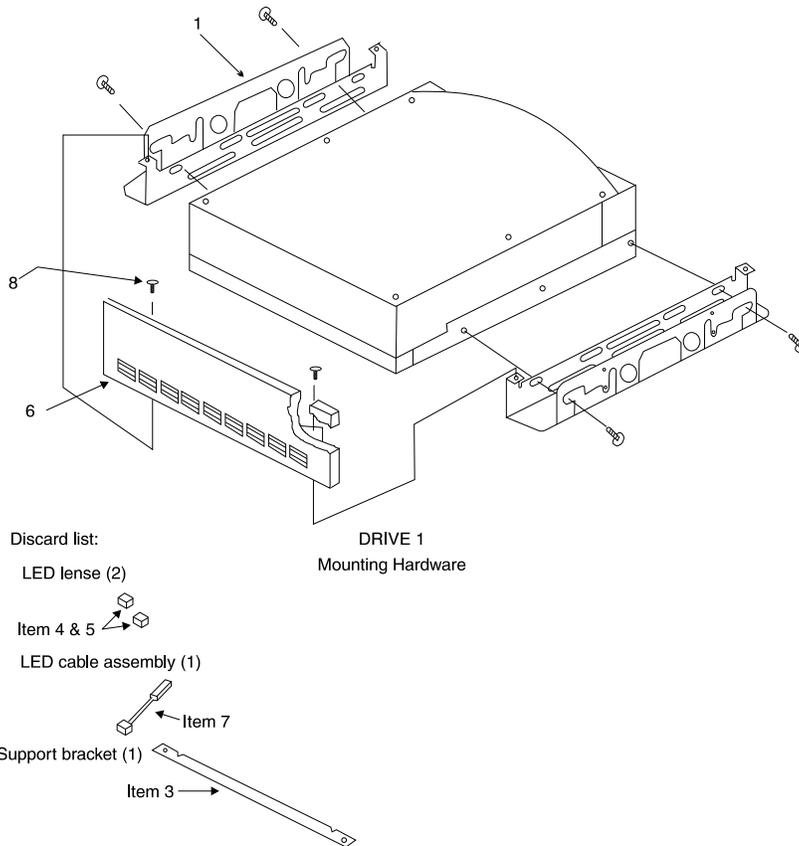

Figure 4-3. Universal Installation Kit
13. Assemble the installation kit following Figure 4-3.
16. Locate the drive between the rails; the J4, J3 connector end of the drive unit should be flush with the spacer bar illustrated in Figure 4-3.